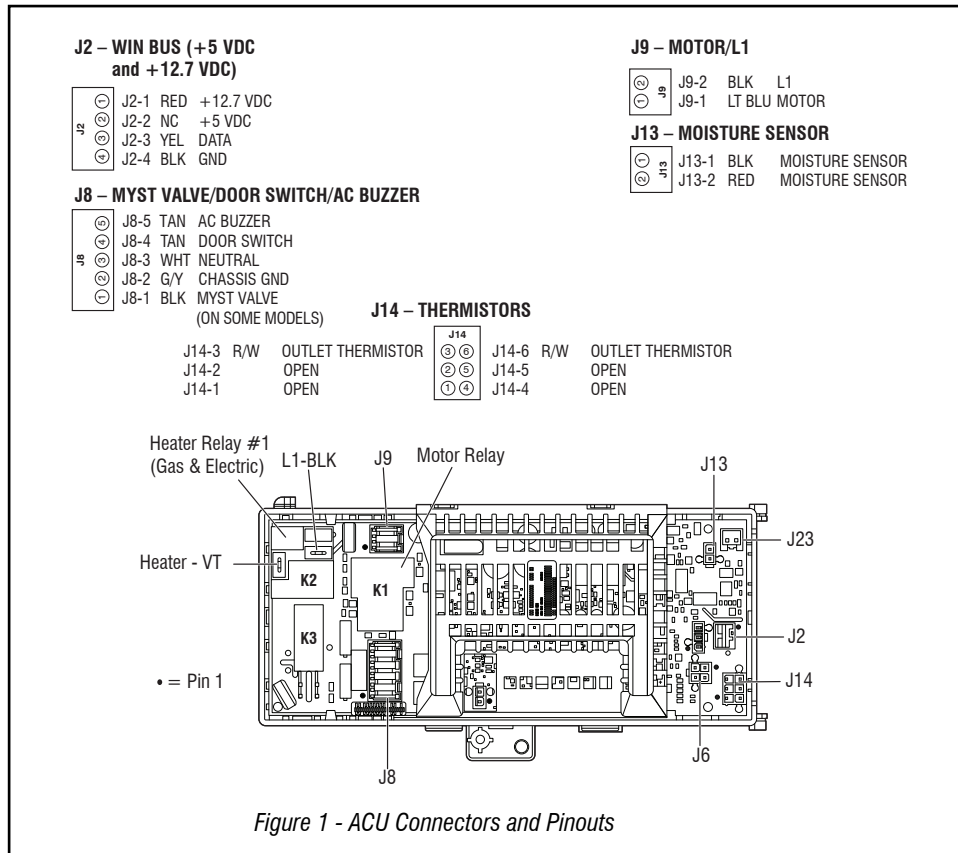
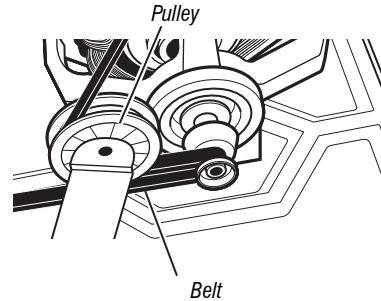

Figure 1 - ACU Connectors and Pinouts
Figure 6 - Slowly remove drum belt.
5. **ACU VAC** – With voltmeter set to AC, connect black probe to ACU J8-3 (N) and red probe to J9-2 (L1). (See Figure 1.) Plug in dryer or reconnect power.
5. With an ohmmeter, check for continuity between the neutral (N) terminal of the plug and J8-3 (white wire) on the ACU. The left-hand side of figure 6 shows the position of the neutral terminal (N) on the power cord plug. Also see figure 1, page 17.
- If there is no continuity, check the continuity of the power cord in a similar way to that illustrated in figure 6, but for power cord's L1 wire.
7. Check the drive motor. Slowly remove the drum belt from the spring-loaded pulley, gently letting the pulley down. See figure 6.